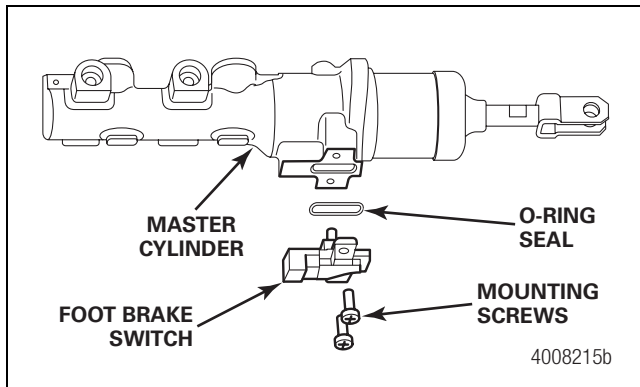

Figure 4.50
2. Install the foot brake switch to the base of the master cylinder. Tighten the two screws to 26.5-35.4 in-lb (3-4 N•m).  Figure 4.50.